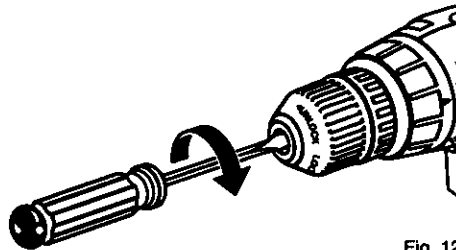

Fig. 12
- Open chuck jaws and remove allen wrench. Remove the chuck screw by turning it in a clockwise direction. See Figure 12. Note: The screw has left hand threads.